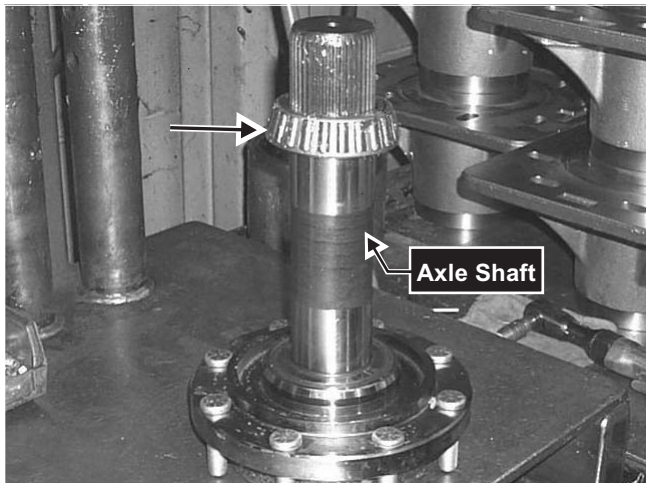

Fig. 5-16 Press the bearing cone onto the axle shaft. Note orientation of bearing cone.
4. Place axle shaft on flat surface with the shaft in a vertical position. Press bearing cone onto the axle shaft with a suitable driver. Note orientation of the first bearing cone in **Figs. 5-16 and 5-17**.